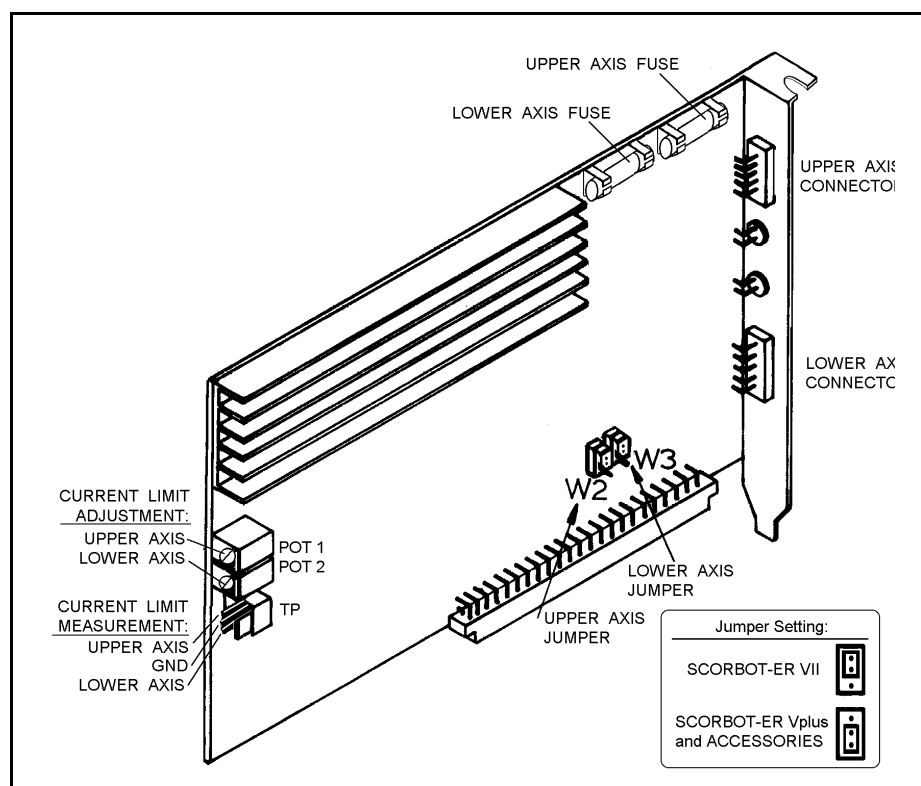

Figure 8-13: Axis Driver Card
Refer to Figure 8-13.
2. Connect the common probe of the voltmeter to the middle point in TP (marked GND in Figure 8-13).
Note the configuration of the two jumpers, W2 and W3, on the driver card, shown in Figure 8-13.